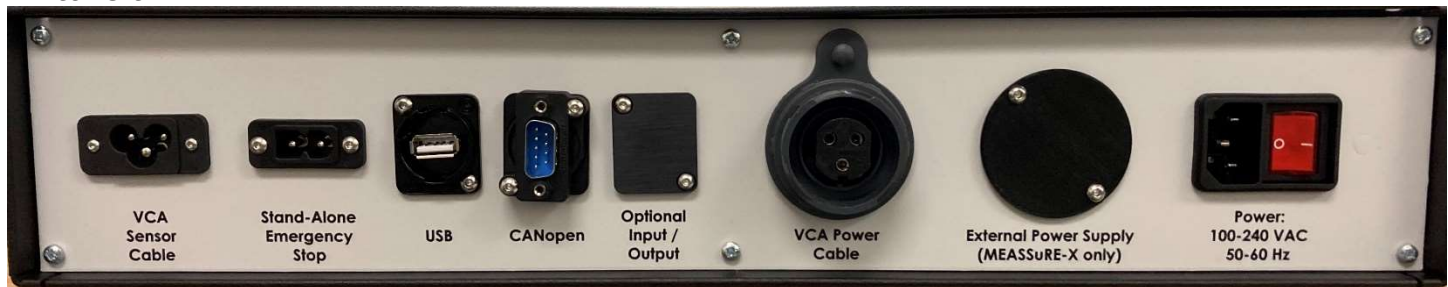

Fig. 2: All the connectors, except for the External Power Supply connector, on the rear panel of the electronics enclosure.
- This 2-pin socket is **only used in MEASSuRE-X** to connect to the external, high voltage power supplies (see in the next subsection). When a MEASSuRE-Premium or -Mini is used, no external power supply is needed. Thus, a cover replaces the connector, as shown in **Fig. 2** above.